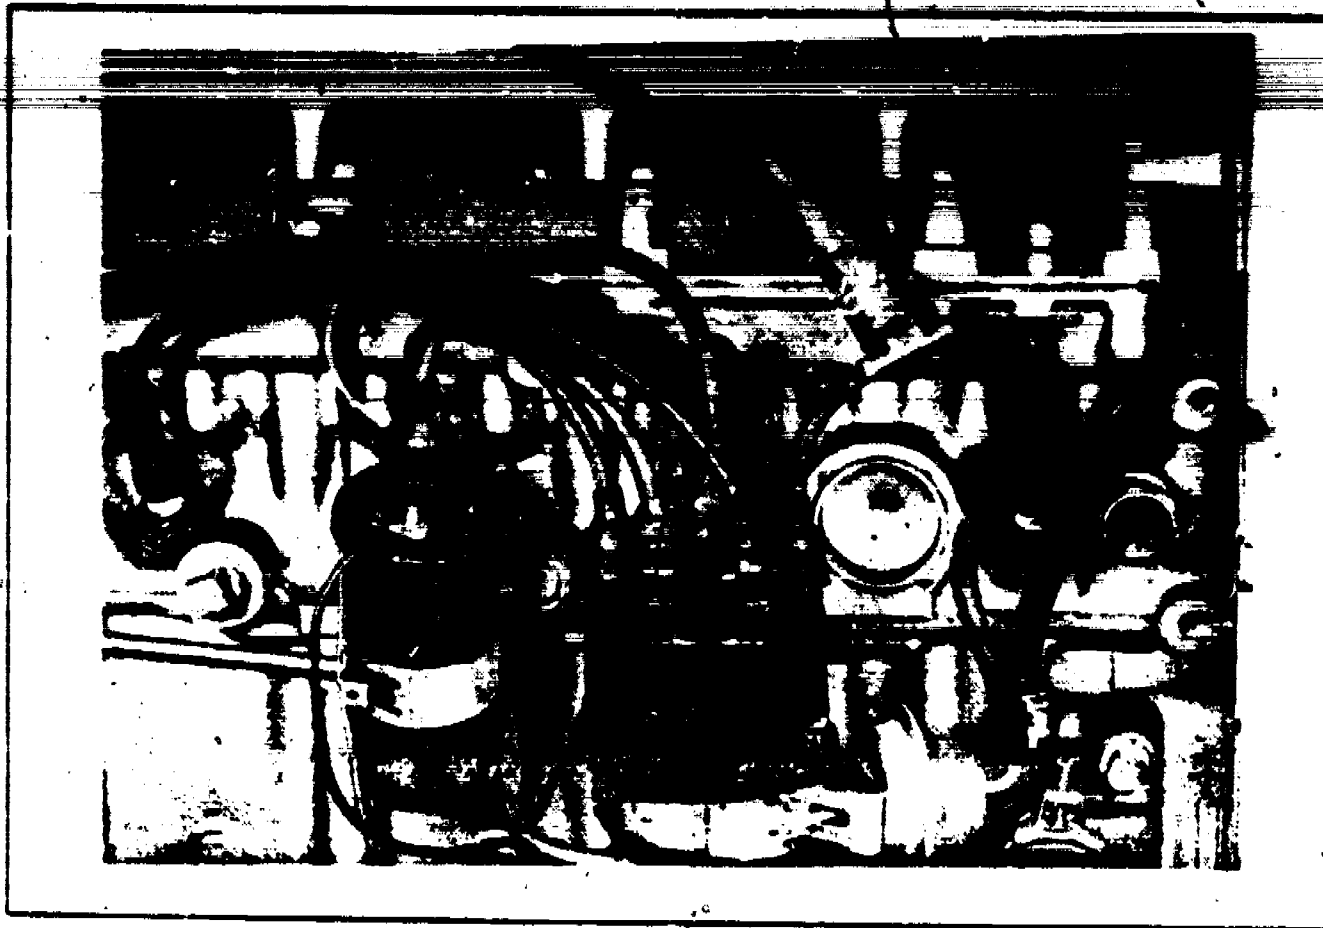

Figure 4-2. Trigger Pickup Connection
c. Attach trigger pick-up lead (4, figure 1-1) to timing cylinder spark plug wire three to six inches from the distributor cap. (See figure 4-2).